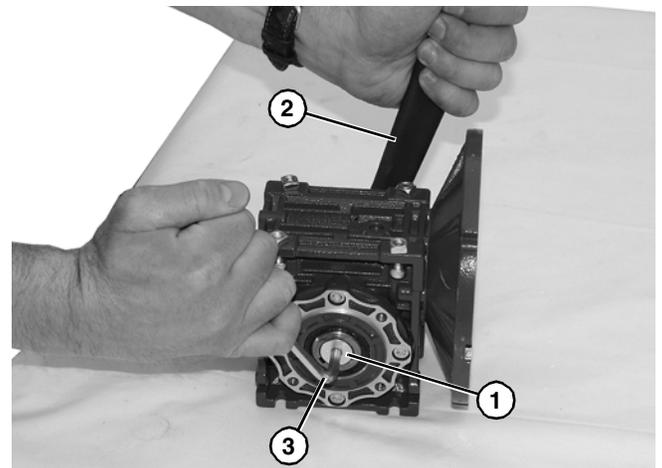

Figure 23
2. Loosen driveshaft bolt (**Figure 23, item 1**).
3. Hold the driveshaft with a wrench (**Figure 23, item 2**) as shown to keep shaft from turning, while removing screw with hex wrench (**Figure 23, item 3**).
- Hold the driveshaft with a wrench (**Figure 23, item 2**) as shown to keep shaft from turning, while installing screw with hex wrench (**Figure 23, item 3**). Tighten screw to 100 in-lb (11.5 Nm) for 42CZ or 350 in-lb (39.5 Nm) for 52C, 63B5 and 71B5.